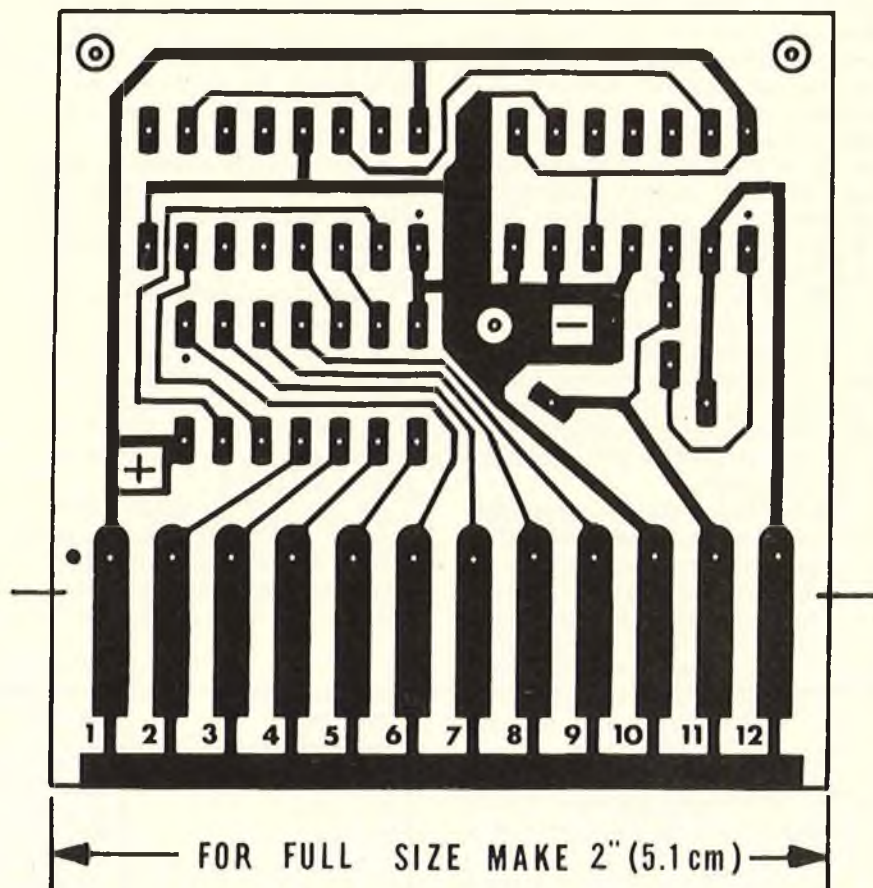
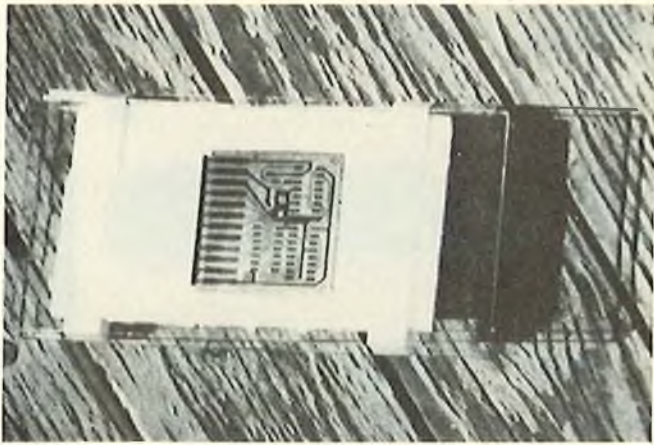

FIGURE 4
FIGURE 5
piece of presensitized circuit board material. This image is then developed and etched. A drafting supply house or telephone directory will provide a source for photostats. The required size is indicated on trace pattern (Fig. 4). Obtain a black line on clear transparency. Use the magazine page as original artwork. The majority task of construction is soldering. A low-wattage soldering iron with a 1/16" (0.2 cm) tip diameter is required. Use rosin core or Ersin solder. Do not use acid core solder. The soldering accessories indicated on parts list are highly recommended. Begin with preparation of PC board:
2. Prepare an exposure sandwich as follows: (a) clean, dry sheet glass, (b) transparency, (c) circuit board with presensitized surface against transparency, (d) styrofoam padding, (e) sheet glass. Handle transparency by edges to avoid fingerprints. Check to determine that the image, when viewed through the top sheet glass, looks like trace pattern (Fig. 4), not the reversal image. Be certain image on transparency is aligned with board edges; connector strip will overhang one end of the board. Press sandwich together and secure ends with masking tape. Clean dust and fingerprints from glass over transparency (see Fig. 5).